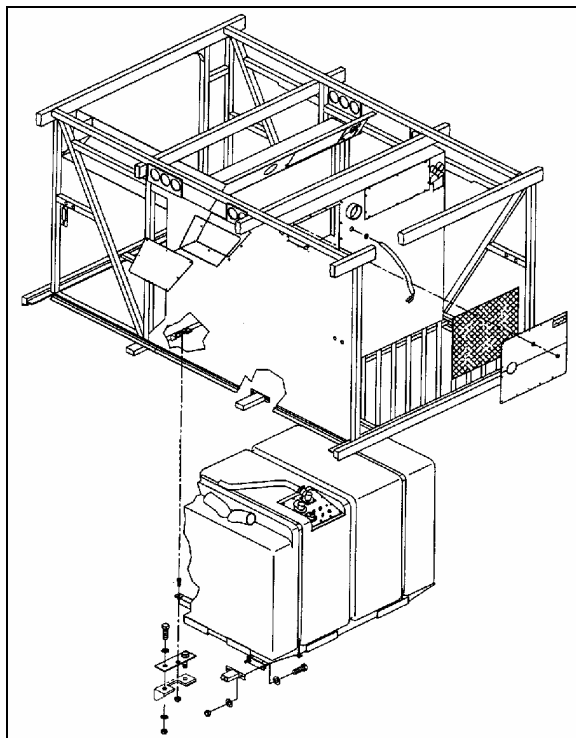

FIGURE 16: FUEL TANK INSTALLATION
5. Place assembly in drill hole. Tighten screw by 10 complete turns. Refer to Fig. 16.